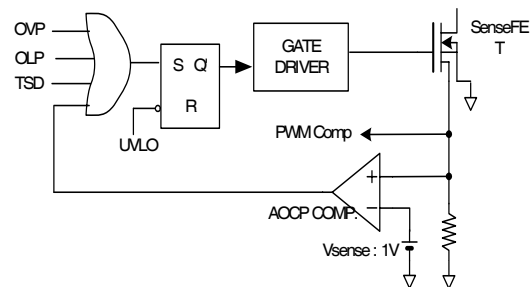

Figure 25. AOCP block
3.1 Abnormal Over Current Protection (AOCP): When the secondary rectifying diodes or the transformer pins are shorted, a steep current with extremely high di/dt can flow during the LEB time. Therefore, the abnormal over-current protection (AOCP) block is added to ensure the reliability, as shown in Figure 25. It turns off the SenseFET within 300ns after the abnormal over-current condition is sensed.